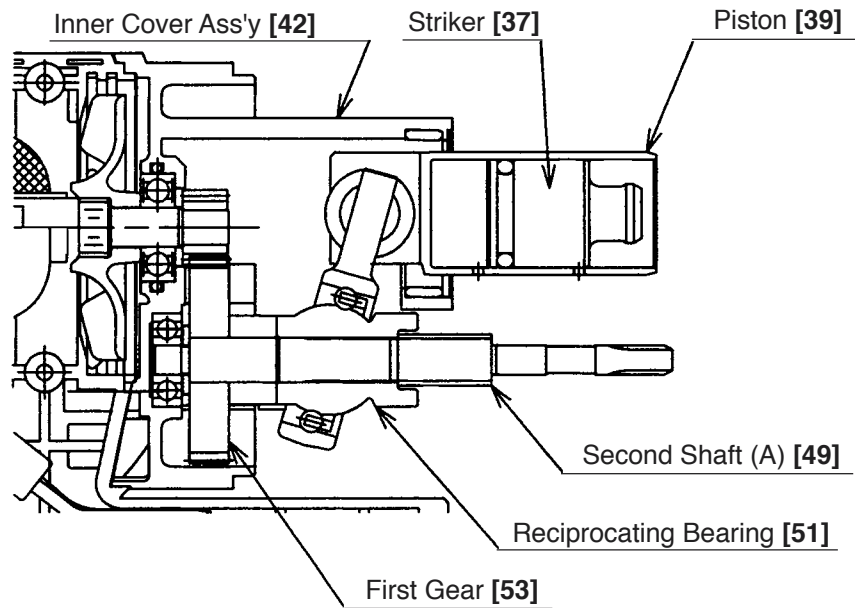
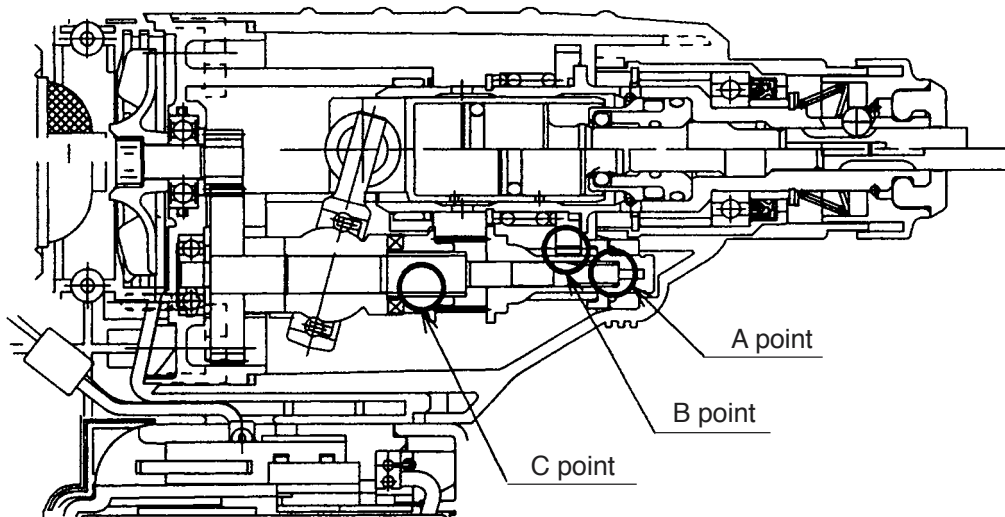

Fig. 25
Fig. 26
(6) Mounting the Piston [39]
Mount the Piston [39] facing its two 2-mm diameter holes to Second Shaft (A) [49] as shown in Fig. 25.
(7) Mounting Gear Cover (A) [10]
First, mount Change Lever (A) [19] and the lock plate ass'y to Gear Cover (A) [10] then mount it to the main body as shown in Fig. 25. At this time, engage the gear in 3 points (A, B and C) as shown in Fig. 26 according to either of the following methods:
- ① Mount the drill bit and turn it by a hand slowly, or
- ② Install the battery and pull the trigger switch for a quick moment to turn the motor.